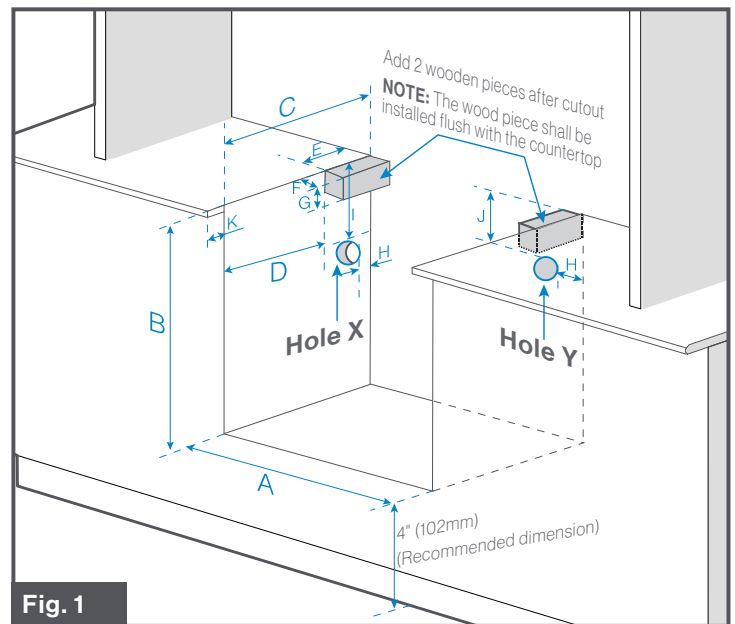
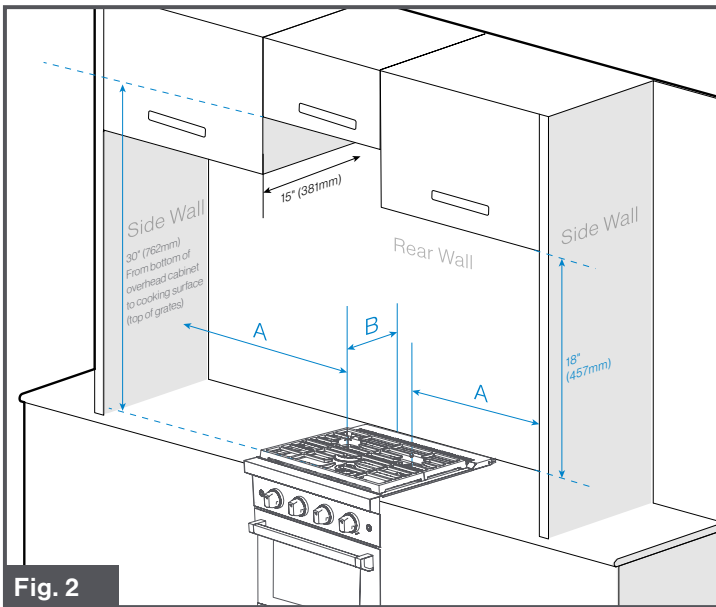

Fig. 1
Fig. 2
NOTE: When planning the location, consider curtains or other combustible materials installed around the appliance so as not to create a fire hazard. The cabinet cutout must be located with respect to the minimum clearance to combustible materials. (Fig. 1)
The minimum horizontal distance(s) from sides and back of appliance to adjacent vertical combustible walls extending above the top panel: (Fig. 2)
NOTE: When the cabinet has been prepared according to the dimensions given above (Fig. 1 and Fig. 2) and the gas line is in place.
16. Securely fasten the rear of oven to the pre-installed wood piece (Fig. 1) in place with two screws (not provided). (Fig. 7)
Align the arrows from the rear decoration panel with the arrows on the rear mounting tabs on the back of the range and push up against the wall behind the range. Use 2 screws (not provided) and attach to the pre-installed wood piece from Fig. 1.